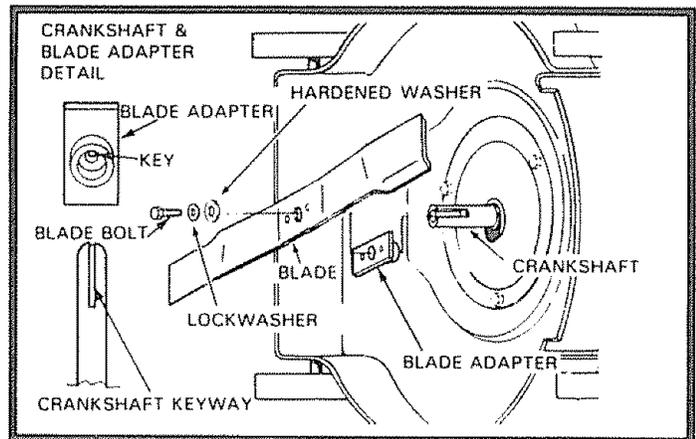

FIG. 11
- Remove blade and attaching hardware (bolt, lockwasher and hardened washer) (See Fig. 11).
NOTE: Be sure the word TOP (stamped on the blade) is toward the engine (See Fig. 11).
- Install the blade bolt with the lockwasher and hardened washer into blade adapter and crankshaft (See Fig. 11).